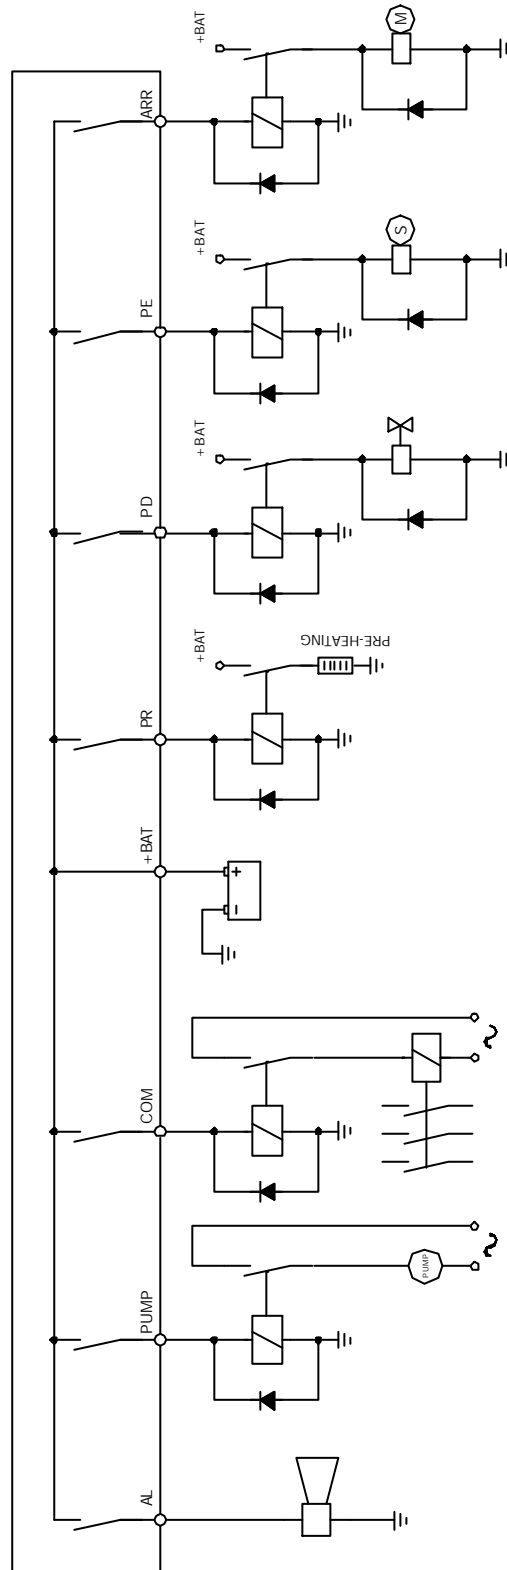

Figure 1b.
time, the output will become inactive. Also, the number of start attempts is programmable through parameter P09, and the time between them, through P10. An external relay, with its corresponding diodes for dissipation of inductive currents, is necessary (see figure 1b). This output sustains a maximum current of 0.5A.
**PE terminal: stop by excitation.** If a stop of the generating set is internally ordered, this output will activate for a maximum time programmed by P13. If the genset does not stop, further stops will be ordered for successive periods of equal duration until the genset stops. An external relay, with its corresponding diodes for dissipation of inductive currents, is necessary (see figure 1b). This output sustains a maximum current of 0.5A.
**PD terminal: stop by de-excitation.** The output associated with this terminal is active when the genset has to be started and is deactivated when ordered to stop. An external relay, with its corresponding diodes for dissipation of inductive currents, is necessary (see figure 1b). This contact sustains a maximum current of 0.5A.
**PR terminal: warm-up.** The output associated with this terminal is active before each start attempt during the time programmed by P07 to accomplish the warm-up of the motor. An external relay, with its corresponding diodes for dissipation of inductive currents, is necessary (see figure 1b). This contact sustains a maximum current of 0.5A.
**CON terminal: counter activation (warming of the motor).** The output associated with this terminal becomes active after the time programmed by P11, once the centralite detects that the motor has started. It is used for warming up the set without load, before putting load on it. An external relay, with its corresponding diodes for dissipation of inductive currents, is necessary (see figure 1b). This output sustains a maximum current of 0.5A.
**PUMP terminal: automatic fill-up of fuel tank.** The output associated with this terminal is active if this option is enabled through parameter P39 (auto-fill enabled) and the fuel level descends below the value indicated by parameter P40 (minimum fuel level). It is deactivated when the fuel level surpasses the value indicated in parameter P41 (maximum fuel level). An external relay, with its corresponding diodes for dissipation of inductive currents, is necessary (see figure 1b). This output sustains a maximum current of 0.5A.
**AL terminal: alarm output.** The output associated with this terminal is active when any anomaly in the set is detected, or there are values out of the range programmed in the parameters. An external relay, with its corresponding diodes for dissipation of inductive currents, is necessary (see figure 1b). This contact sustains a maximum currents of 0.5A.
**P. EM terminal: emergency stop.** When active, an immediate stop of the generating set is performed. It can be activated (parameter P25) either through a normally open contact (NO) or through a normally closed contact (NC); in the first case, if we want to activate